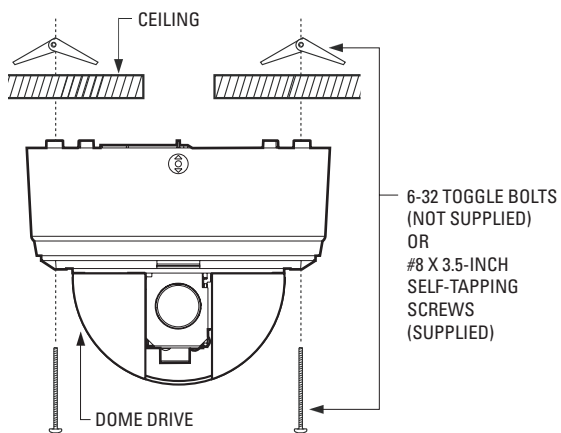
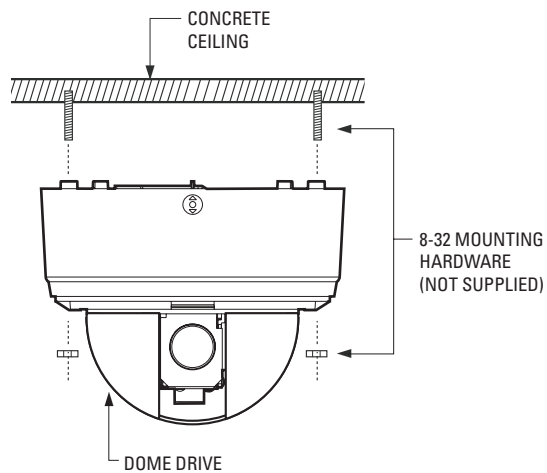

Figure 3. Ceiling Installation
Figure 4. Concrete Ceiling Installation
- a. Using the supplied template, drill holes for toggle bolts or studs. Refer to Figure 3 or Figure 4.
Refer to Figure 3 and Figure 4 for installing the dome drive.